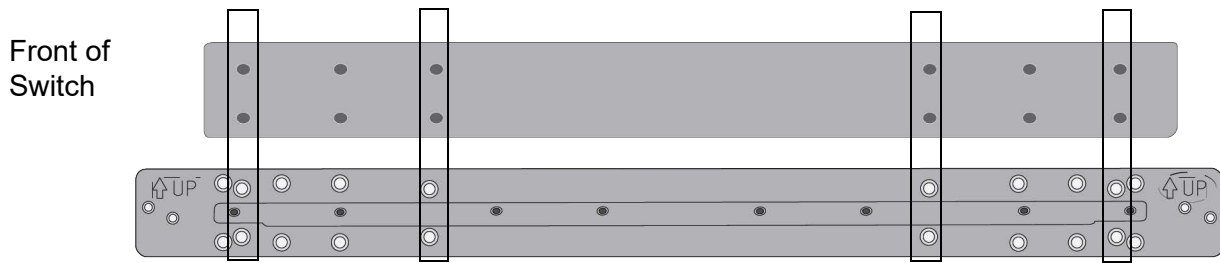

Figure 20. Inner Rail Screw Holes for the IX5-28GPX Switch
**IX5-28GPX Switch** Use eight screws on each side. Refer to Figure 20.